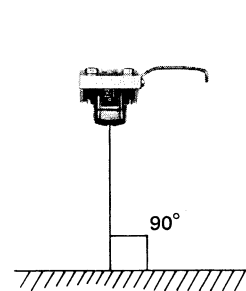

Fig. 33
### 10-(5) Headshell Mounting Angle Adjustment (Fig. 33)